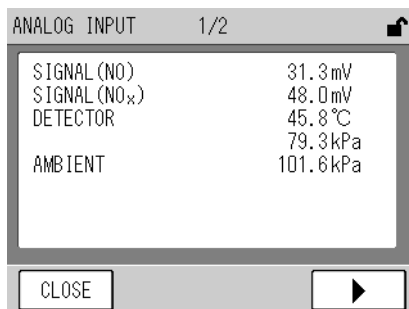

Fig. 58 ANALOG INPUT screen
- [ANALOG INPUT]: Displays the ANALOG INPUT screen (Fig. 58 on page 48).